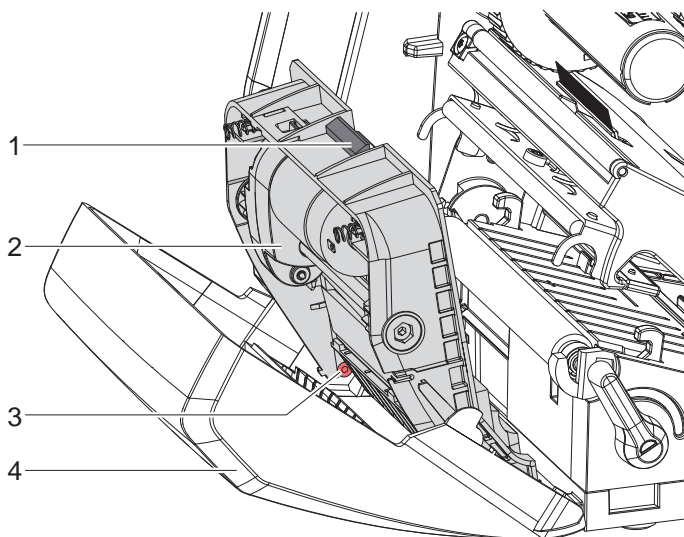

Figure 4 Dismount the cutter
- ▶ Turn the shaft (6) clockwise using a torx wrench TX10 until the gear racks (7) cannot engage anymore.
- ▶ Pull the upper blade (9) out of the guides (8).
- ▶ Take out the lower blade (10).
- ▶ Push the lower blade down into the guides (11).
- ▶ If necessary, put the springs (12) back into the spring retainers (13).
- ▶ To re-mount the upper blade push the lower blade down on the cover and push the upper blade into the guide until the gear racks (7) can engage with the gear wheels (5).
- ▶ Turn the shaft (6) counterclockwise using a torx wrench TX10 until the blade reaches the upper limit.
2. Fit the blade unit (3) according to Fig. 4 into the axes (2) and fold it towards the cover (4) until it snaps in.